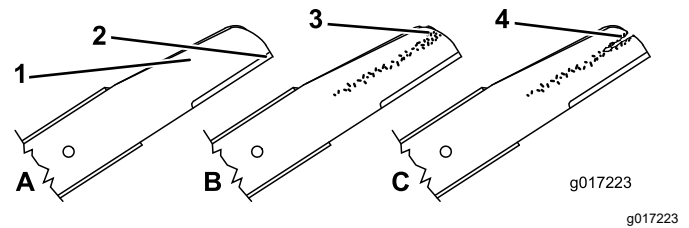

Figure 34
1. Inspect the cutting edges (Figure 34). If the edges are not sharp or have nicks, remove the blades and have them sharpened or replace them.
2. Inspect the blades themselves, especially the curved area (Figure 34). If you notice any damage, wear, or a slot forming in this area, immediately replace them with new blades.